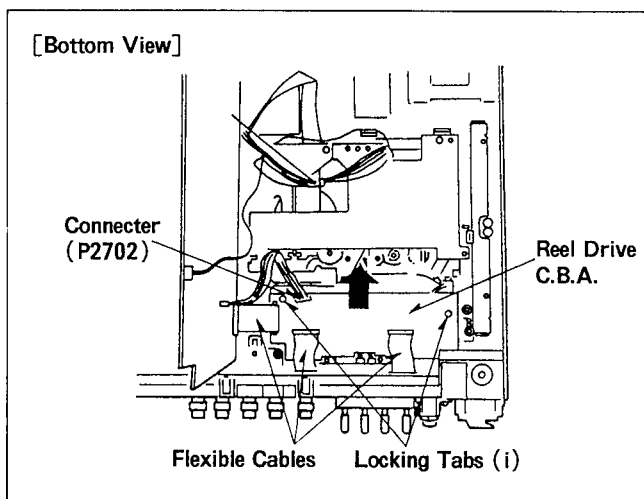

Figure D31
1. Unlock the 2 locking tabs (i) on the Reel Drive C.B.A. (Figure D31)
2. Disconnect the 3 Flexible Cables (P2701, P2704 and P2705) and a connector (P2702). (Figure D31)
3. Carefully pull the Reel Drive C.B.A. in the direction indicated by arrow. (Figure D31)